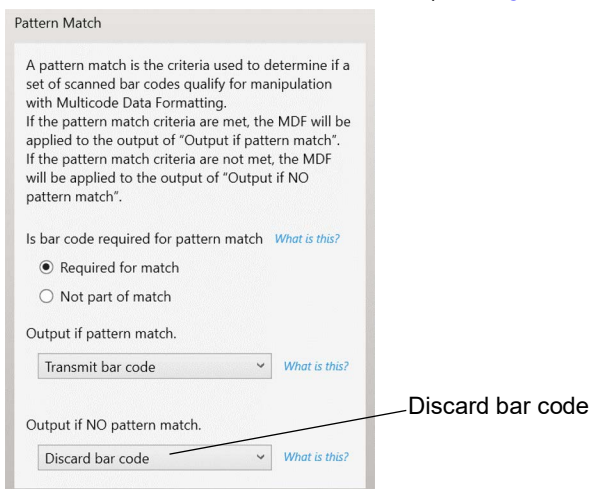

Figure 16-3 Figure Match Setting for Output
- When defining criteria, avoid enabling an output when the pattern is not matched. Set **Output if NO pattern match set** as **Discard bar code** (see Figure 16-3).